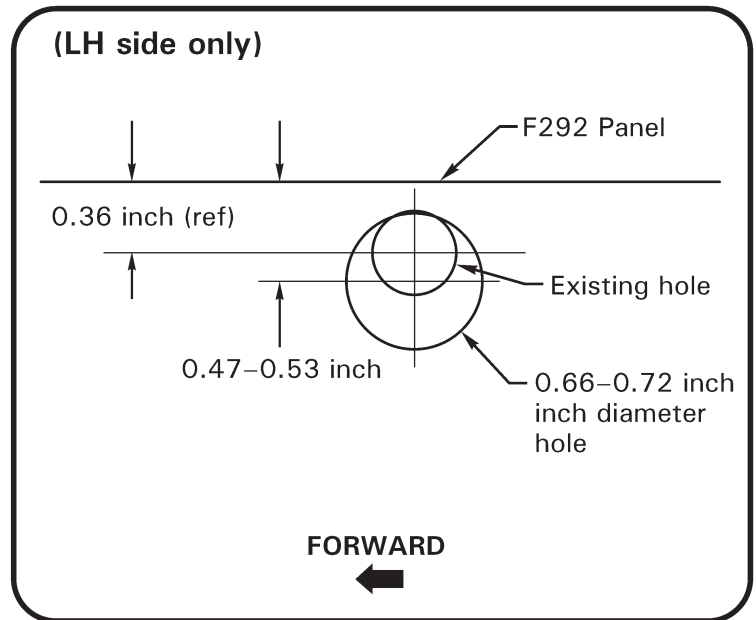

Figure 2 Drilling locations for drain assembly installation
5. Refer to Figure 2. Verify clearance on reverse side and drill 0.66–0.72 inch diameter hole thru F387-1 belly panel as shown. Deburr hole and clean up debris. Temporarily install MS35489-11 grommet in newly drilled hole.
9. Perform steps 4 thru 8 on opposite, left-hand side via LH-aft seat baggage compartment, noting in step 5, the existing hole is enlarged as shown in Figure 2, Detail B-B.